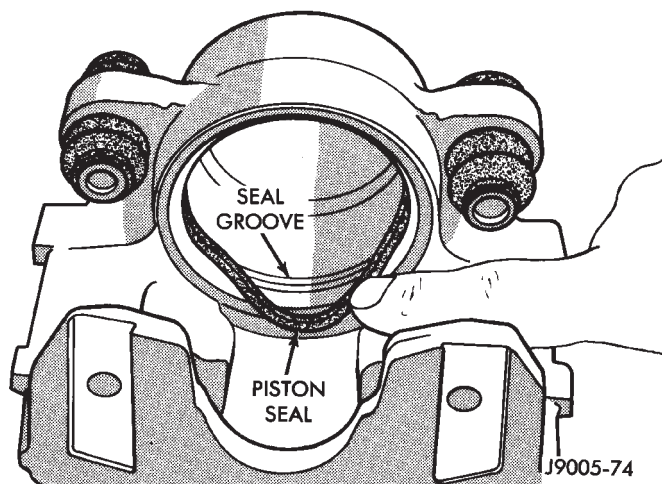

Fig. 51 Piston Seal Installation
- (4) Install new piston seal into seal groove with finger (Fig. 51).